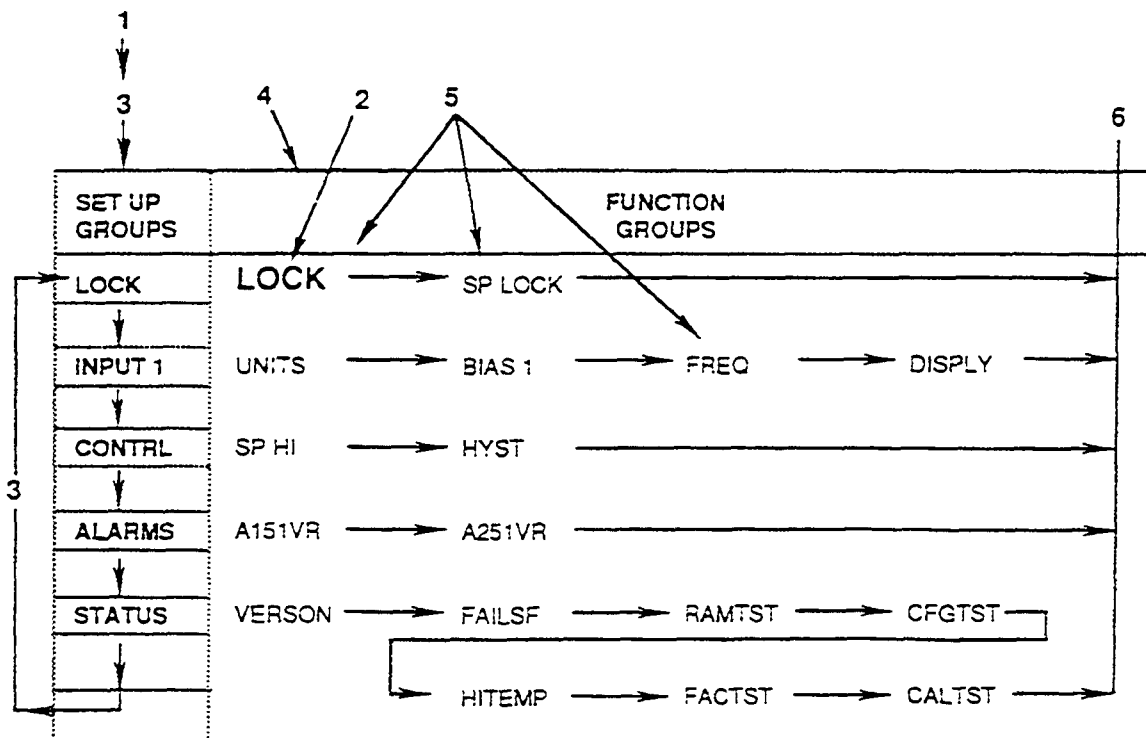

Figure 7 - Chart Showing Display Groups and Direction of Flow
3.01 Displaying and Programming is the process of accessing the Set Up Groups, viewing/making selections and returning to normal display. There are five Set Up Groups which can be accessed, they are: LOCK, INPUT 1, CONTRL, ALARMS, and STATUS Groups (see Figure 7). Follow the Steps: